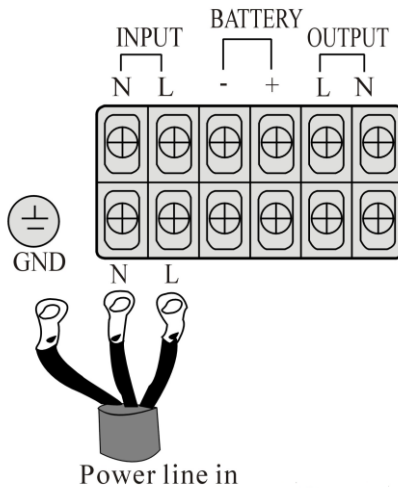

Figure 13
- (2) Open the back panel and inspect the wiring terminal below the power switch. (Figure 13)